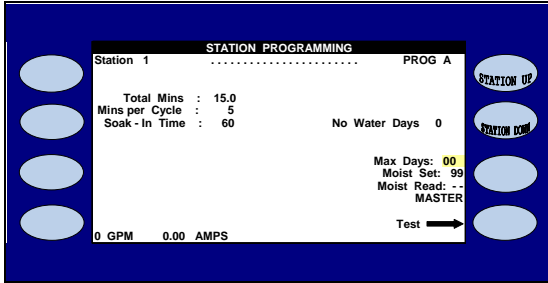

Figure 10
**MAX DAYS:** This entry is used to automatically bypass the moisture sensors of individual stations, separate program stations or all stations, for one to thirty-one days. Stations will receive their maximum programmed water time. The controller will display the number of days remaining in override and can be cleared at any time. After the programmed Maximum Water has elapsed, the system will automatically return to moisture sensing operation (Figure 10).